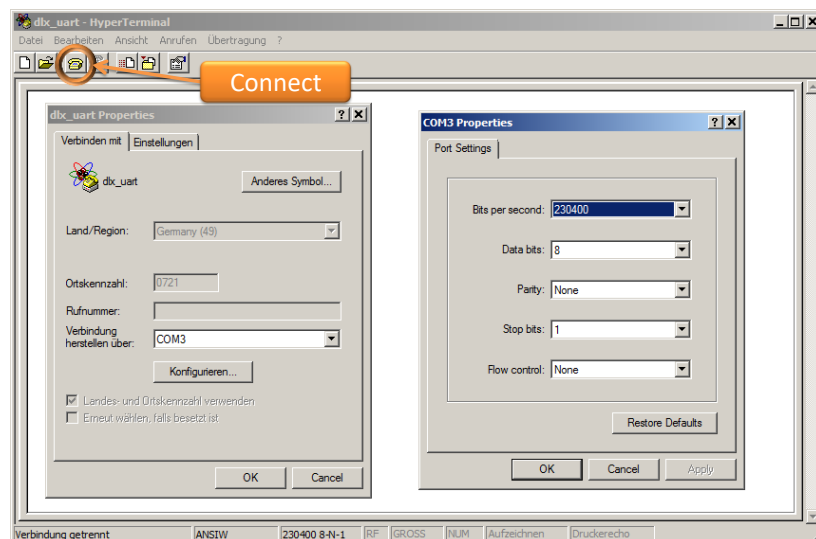

Figure 6-6: HyperTerminal settings
- You have to start the “*dlx_uart.ht*” file under windows, which will open the MS Windows HyperTerminal with the correct settings (*Bits per Second=230400*, *Data Bits=8*, *Parity=None*, *Stop Bit=1*, *Flow Control=None*). You can find “*dlx_uart.ht*” in */home/asip00/ASIPMeisterProjects/TEMPLATE_PROJECT/Applications/Bootloader/*. However, you may have to adapt the configured COM port, depending on which port you are connected to the FPGA (see Figure 6-6). Under, Ubuntu, you can start HyperTerminal by typing
- Now configure the FPGA Board to run with 40 MHz (see point (9) in Figure 6-6) and upload the bootloader bit-file (created in first step) with iMPACT. The UART port on the FPGA is configured to work with 40 MHz and if you use a faster or slower frequency, then you will not see the correct output via UART. The bootloader will prompt on the UART-Console for initializing the SRAM. It will ask for three things (you have to answer with pressing ‘y’ or ‘n’): Initialize IM, Initialize DM, and Start Application.